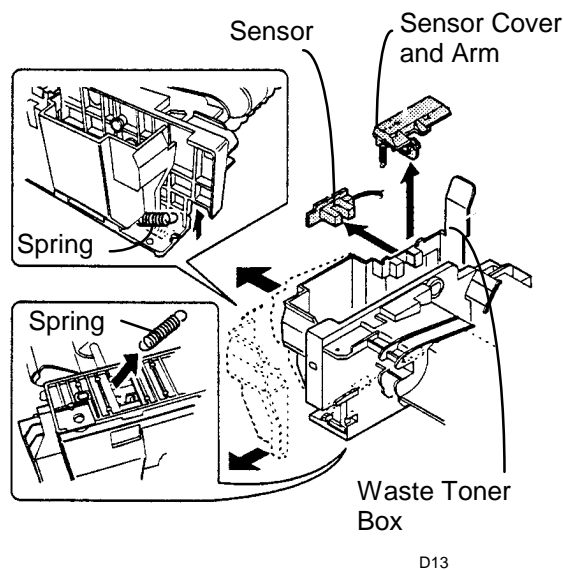

Figure 1. Removing the Toner Box
2. (Figure 1): Remove the Waste Toner Sensor cover and the Waste Toner Sensor.